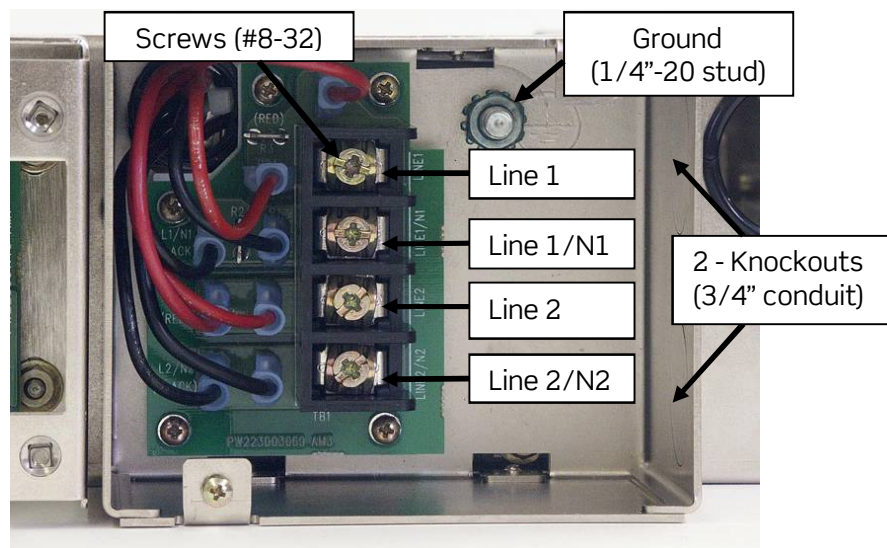

Figure 7 - AC Terminal Block Connections (Dual Feed)
2. Connect the first line/hot to Line 1, labeled on the AC terminal block (Figure 7).